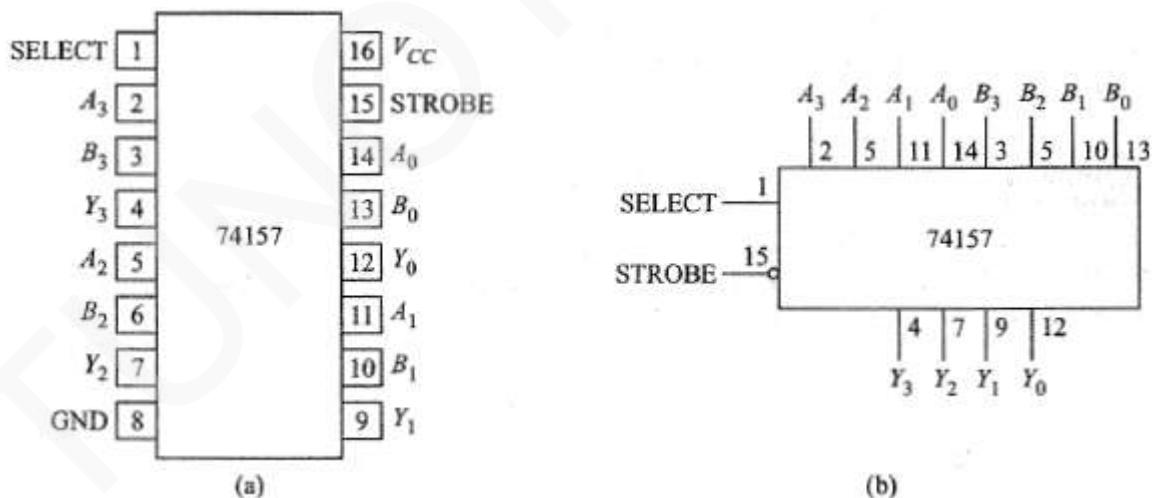

Figure: 4.7: Pinout diagram of 74157
- The 74157 includes a strobe input (Figure: 4.7).